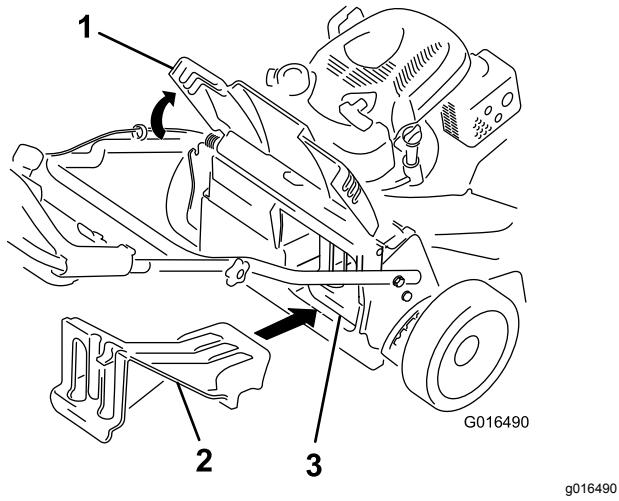

Figure 25
- If the rear-discharge plug is not installed, grip it by the handle, raise the rear door, and insert it into the rear-discharge chute until the latch locks into place; refer to Figure 25.
**Important:** Ensure that the rear-discharge plug is in place before you recycle the clippings (Figure 25).